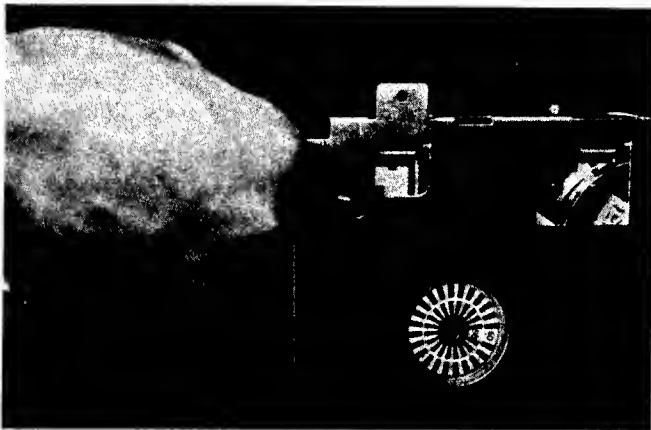

Fig. 5-17. The screw driver is inserted in the speed adjustment potentiometer. Notice the timing marks on the strobe disk.
14. Locate the speed adjustment control potentiometer. On ALPS drives, it's in the upper left corner of the drive base just above and to the left of the speed strobe wheel as shown in Fig. 5-17. On Neutronics disk drives, this control is located on the analog board on top of the drive mechanism.
3. Locate the timing marks on the strobe disk as shown in Fig. 5-17. The outer circle of markings is used for 60-Hz electrical systems common in the United States. The inner circle of strobe markings is used with 50-Hz line power such as that found in Europe.